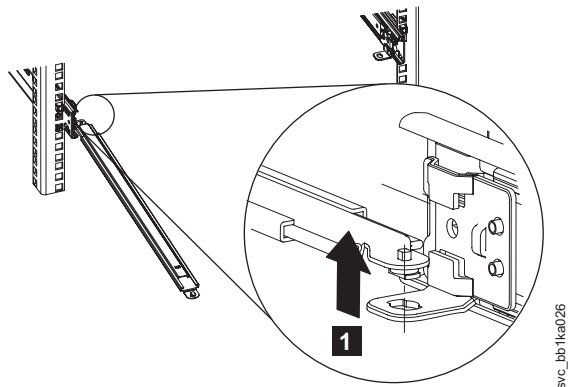

Figure 15. Detaching the SAN Volume Controller 2145-CF8 cable-management support arm
9. Disconnect the attached end of the support arm, as shown by **1** in Figure 15, from the same slide rail from which you detached the cable-management arm.